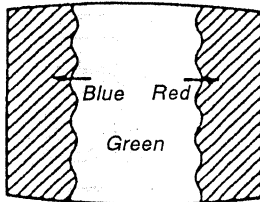

Fig. 3-3
5. Slide the deflection yoke to the back so that the center of the screen is green and use the purity magnet to achieve left-right symmetry (Fig. 3-3).